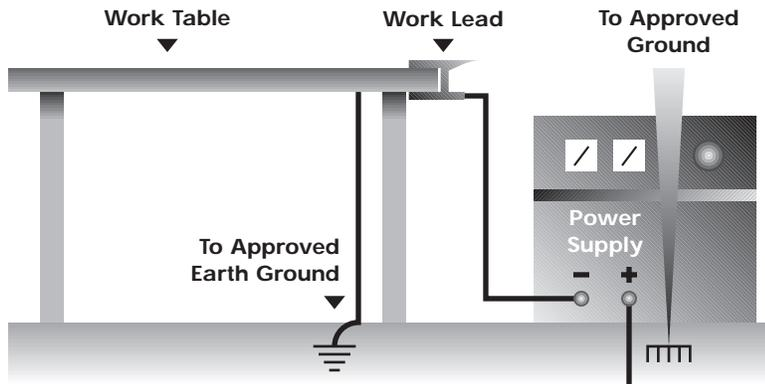

Figure 47 -
1. Ground all electrical equipment and the workpiece. Prevent accidental electrical shocks. Connect power supply, control cabinets and workpiece to an approved electrical ground. The work lead is not a ground lead. It is used to complete the welding circuit. A separate connection is required to ground the work, or the work lead terminal on the power supply may be connected to ground. Do not mistake the work lead for a ground connection. See figure 47.